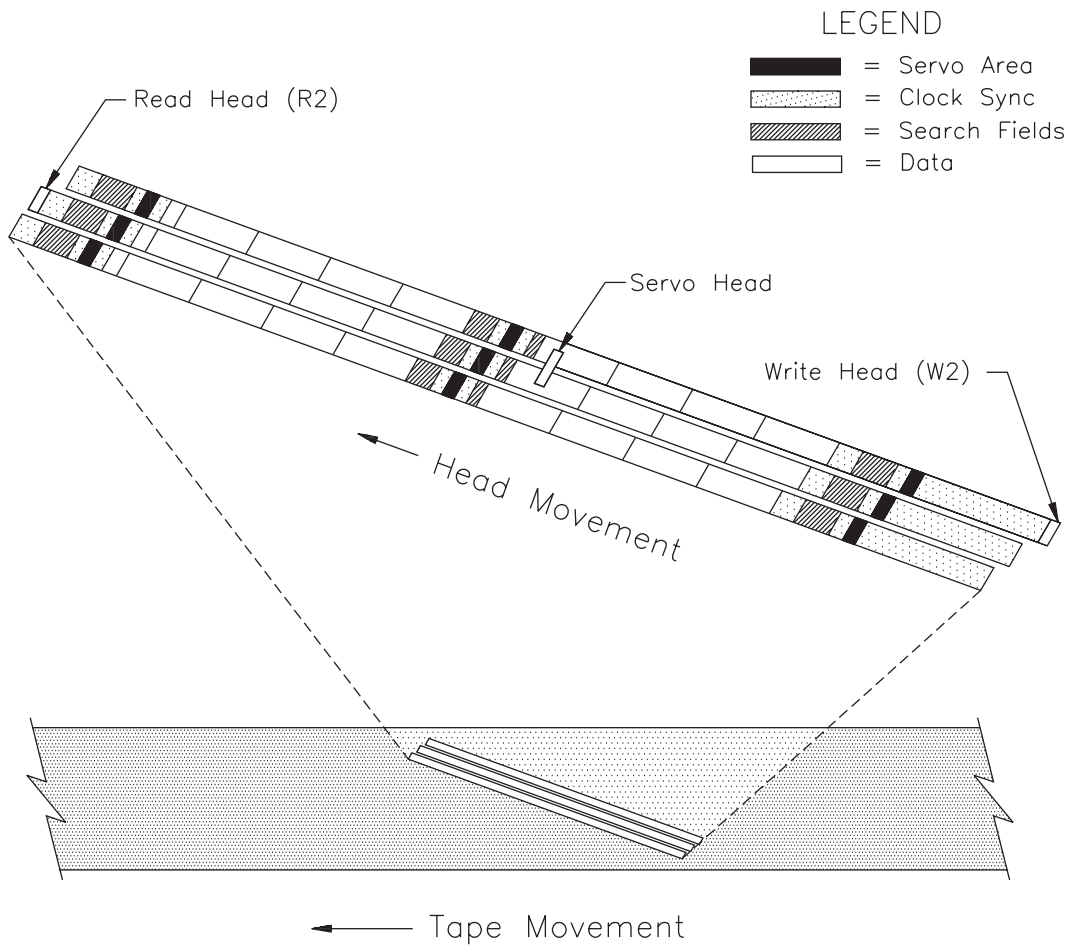

Figure 2-7 Position of the tape drive's heads relative to the tracks (8200c format)
Figure 2-7 shows the position of the tape drive's write head, read head, and servo head relative to the tracks as the heads pass across the tape when the tape drive is reading and writing 8200c format tapes. (For the EXB-8505 and EXB-8505XL, the W2 write head and R2 read head positions are shown.)
- In 8200c format, the tape drive places a servo area at the beginning, middle, and end of every track (as shown in Figure 2-7).